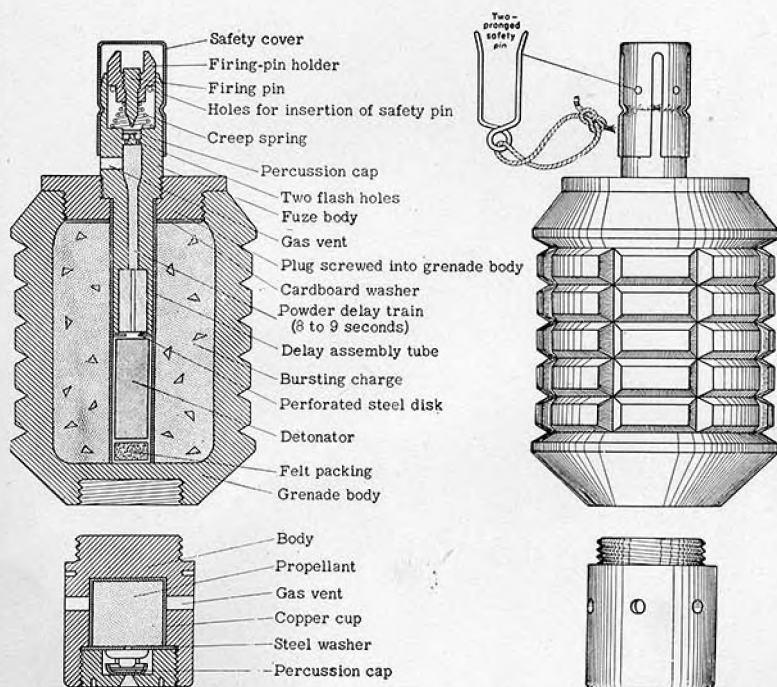

Figure 29.—Model 91 (1931) hand grenade.
The Model 91 (1931) hand grenade (figs. 29 and 30) can be either fired from the Models 10 (1921) (par. 19, p. 68) and 89 (1929) (par. 20e (2), p. 81) 50-mm grenade dischargers or thrown by hand. It can also be modified for use as a rifle grenade by substituting a tubular tail fin assembly for the propellant container (see par. 8g (2) (c), p. 36, and fig. 24, p. 37).